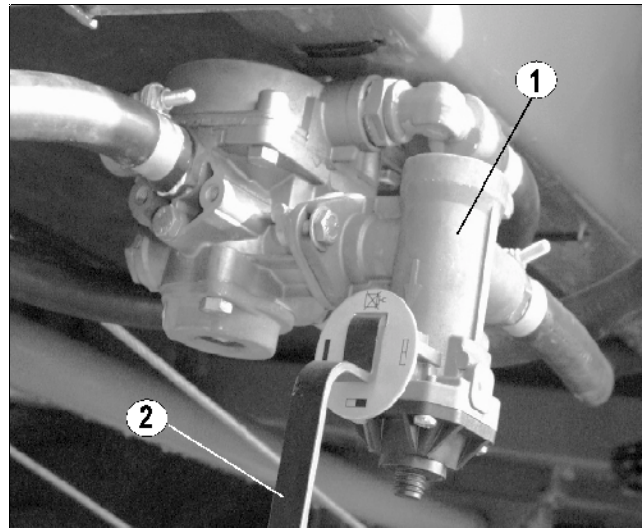

Fig. 15
- Before moving off the brake pressure regulator (Fig. 15/1) on the hand lever (Fig. 15/2) has to be adjusted manually according to the load of the implement.